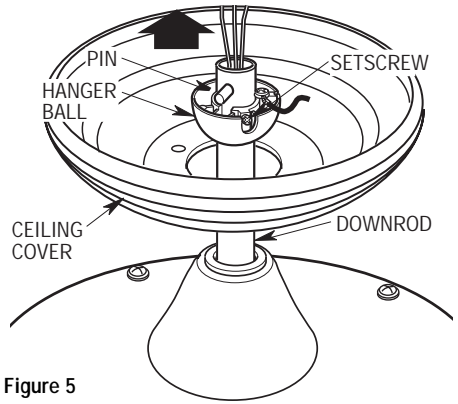

Figure 5
- 7. Route the motor leads through the ceiling cover and install onto the downrod. Be sure the cover is oriented correctly, with the large opening at the top (Figure 5).
- 8. Reinstall the hanger ball on the downrod (Figure 5) as follows. Route the motor leads through the hanger ball and slide the hanger ball over the downrod. Install the pin through the holes at the top of the downrod and slide the hanger ball up the downrod, aligning the ball so the pin is captured in the groove in the top of the hanger ball. Pull the hanger ball up tight against the pin and securely tighten the setscrew in the hanger ball with a phillips screwdriver. A loose setscrew could create fan wobble.